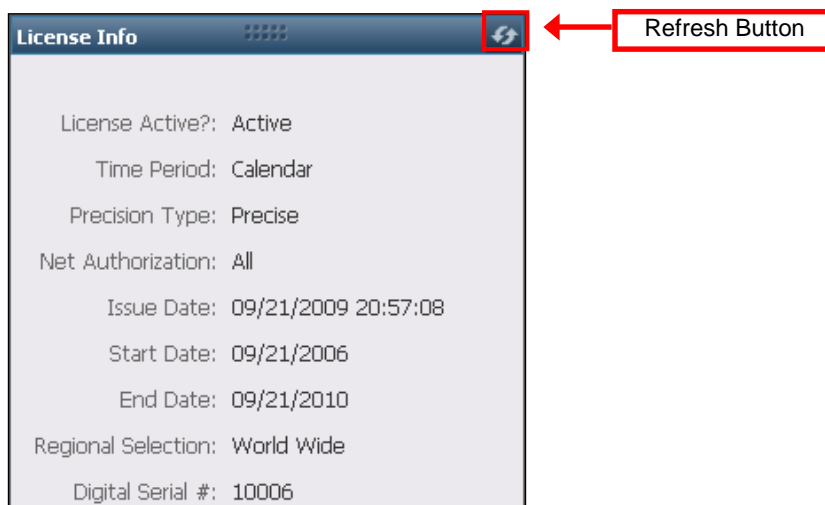
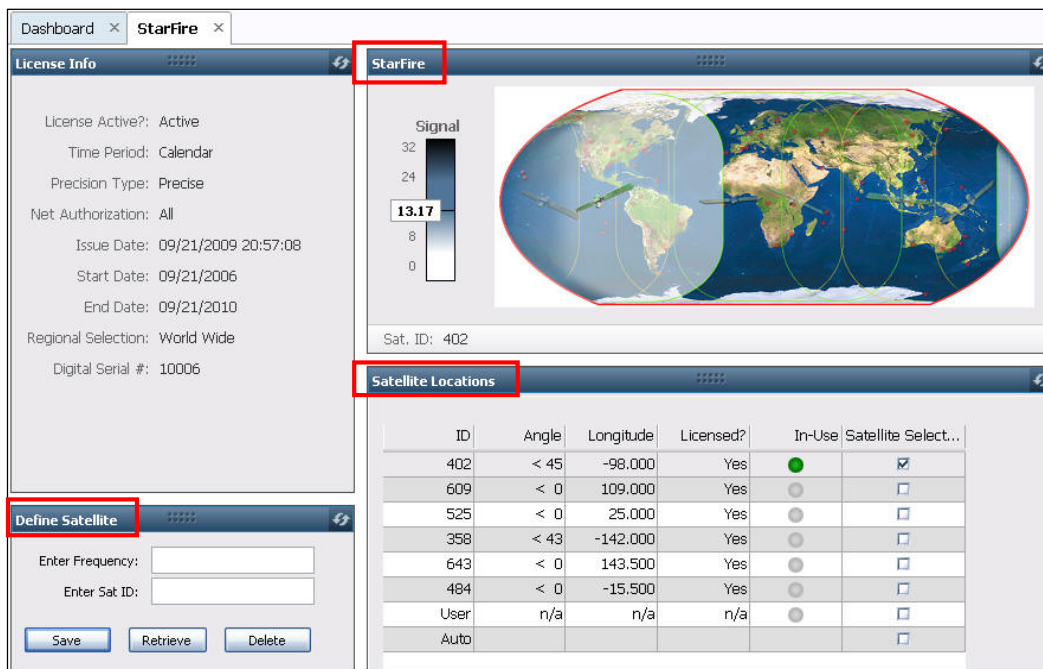

Figure 112: StarFire License Info
Figure 118: PVT Tab – StarFire Tab
2. Click  (refresh) on the *License Info* window (see Figure 112) to ensure that the most current output data are displayed.
Verify this StarFire license data (see Figure 112):
The windows on the *StarFire* tab are described below: *StarFire*, *Satellite Locations*, and *Define Satellite* (see Figure 118). Refer to Figure 112 for information about the *License Info* window.